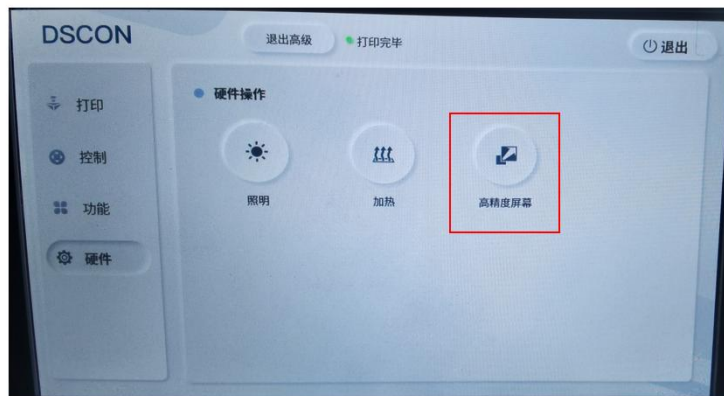

Figure 6.3 Screen switching function
1) After the above work is completed, the following operations need to be carried out in the software. Select hardware operation in the options bar on the far left side of the screen, and then select the corresponding screen (10.1 inches for high-definition screen, 13.3 inches for large-size screens), after selecting the screen, the machine will restart, and the machine will automatically adjust to the corresponding size after restarting. As shown in Figure 6.3 below: